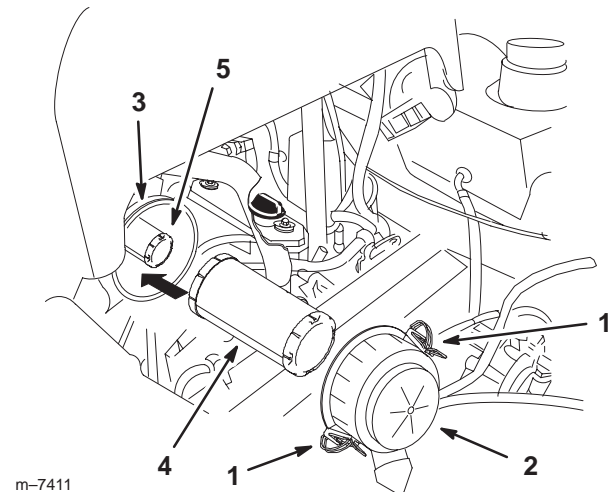

Figure 40
4. Release the latches on the air cleaner and pull the air cleaner cover off of the air cleaner body (Fig. 40).
6. Gently slide the primary filter out of the air cleaner body (Fig. 40). Avoid knocking the filter into the side of the body.
2. If the safety filter is being replaced, carefully slide it into the filter body (Fig. 40).
3. Carefully slide the primary filter over the safety filter (Fig. 40). Ensure that it is fully seated by pushing on the outer rim of the filter while installing it.
4. Install the air cleaner cover with the side indicated as **UP** facing up and secure the latches (Fig. 40).